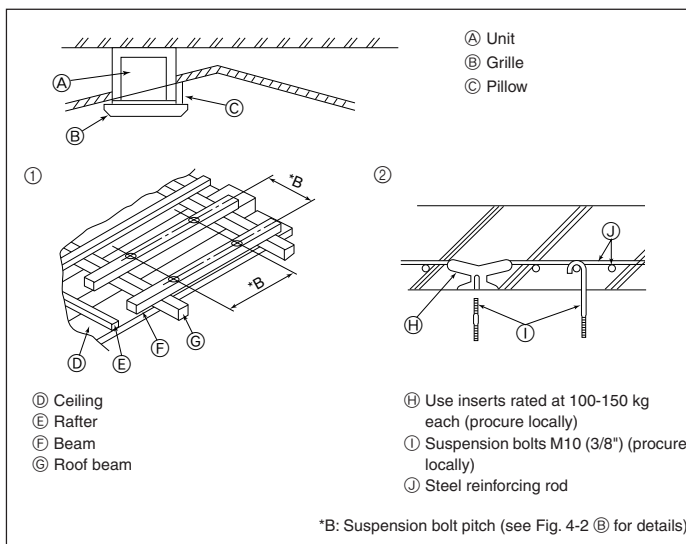

Fig. 4-4
4.4. Suspension structure (Give site of suspension strong structure) (Fig. 4-4)
① Wooden structures
② Ferro-concrete structures